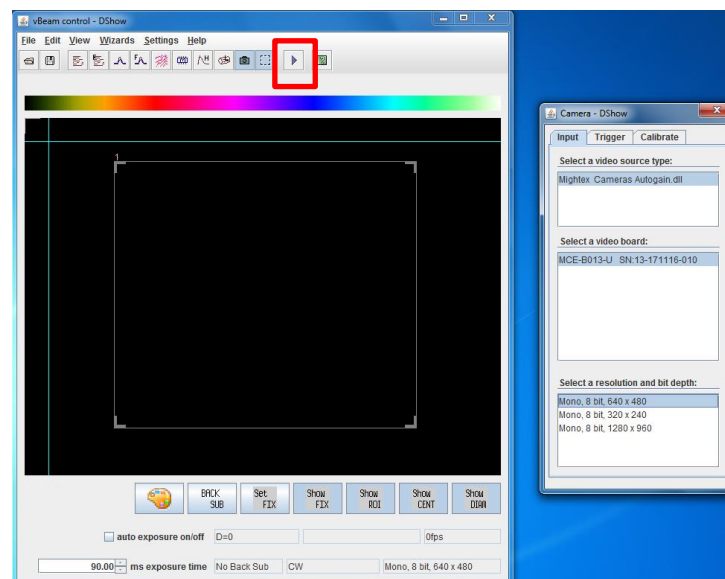

Figure 34: vBeam play button
4. Now the software is ready. Navigate back to the “vBeam control – Dshow” window. On the top part of the window, right of center click the play button to start the camera (Figure 34).